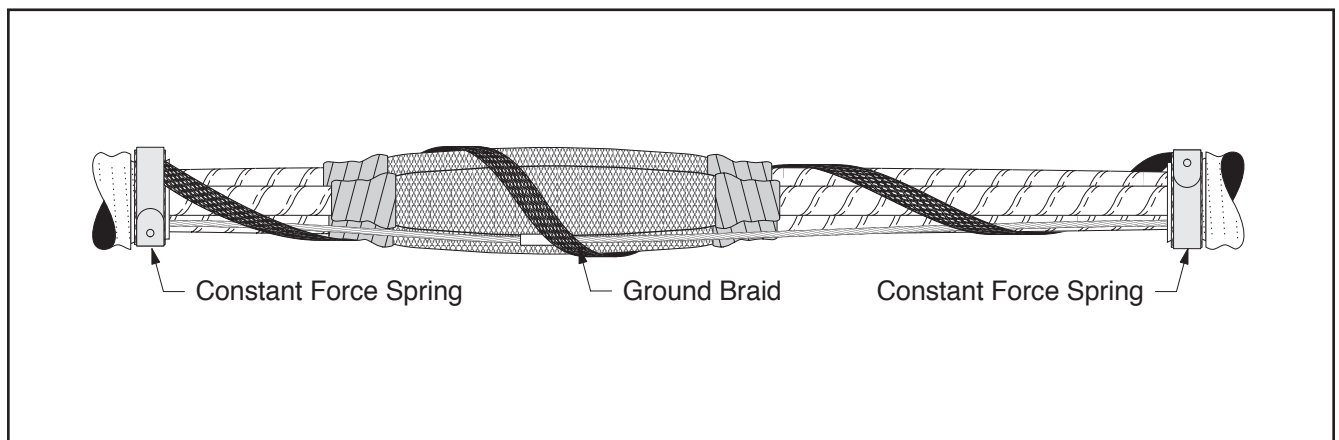

Figure 20
- b. Spiral wrap the braid around the splice to Cable Y. Single wrap the braid around the exposed armor using the same 90° fold as above. Secure with a large constant force spring (*Figure 20*).